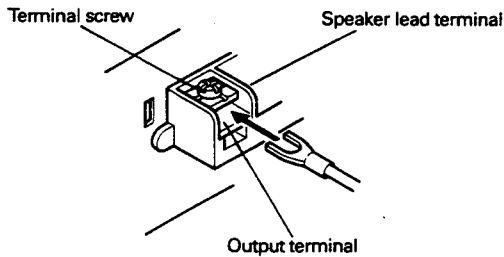

Fig. 7
2. Insert each speaker lead terminal into an output terminal according to the selected mode. (Fig. 7)